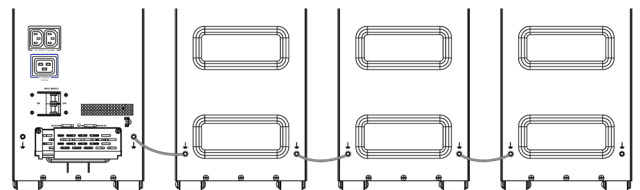

Fig. 42. Connecting several EBMs with additional earth links.
2. To add more than 2 EBMs, additional earth wires are required (10 mm section2) (Fig. 42).